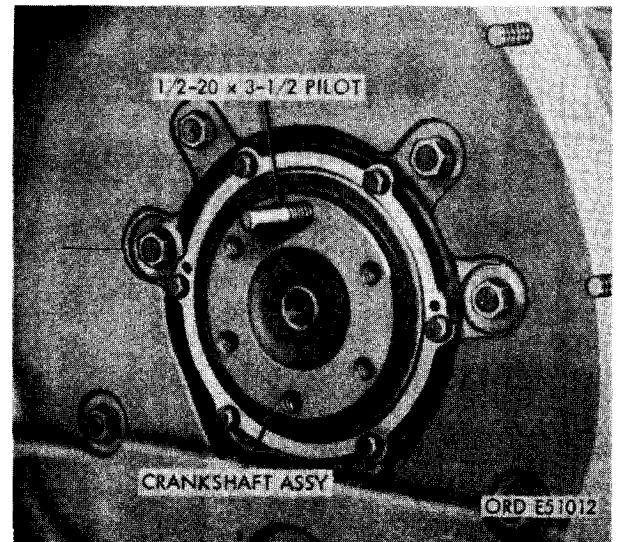

FIGURE 160. REAR FLANGE OF CRANKSHAFT WITH FABRICATED PILOT INSTALLED.
- (1) Fabricate a pilot from a 1/2-20 x 3-1/3 bolt. Cut off bolt head and grind any burrs from shank. Install pilot in top threaded hole in end of crankshaft assembly as shown in figure 160.